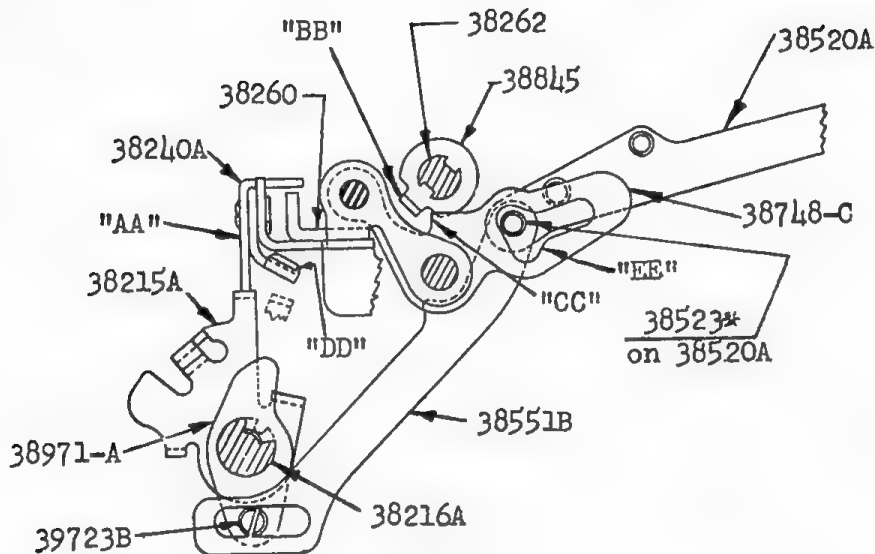

FIG. 51
6. (Fig. 51). It should be noted here that Bail-38260 is also lifted on every Master Clutch Cycle in order to avoid damage to the mechanism in case the Bail-38260 has accidentally been released and its plate "AA" rests in front of the 38215A's at a time when the 38215A's are rocked by the Master Clutch